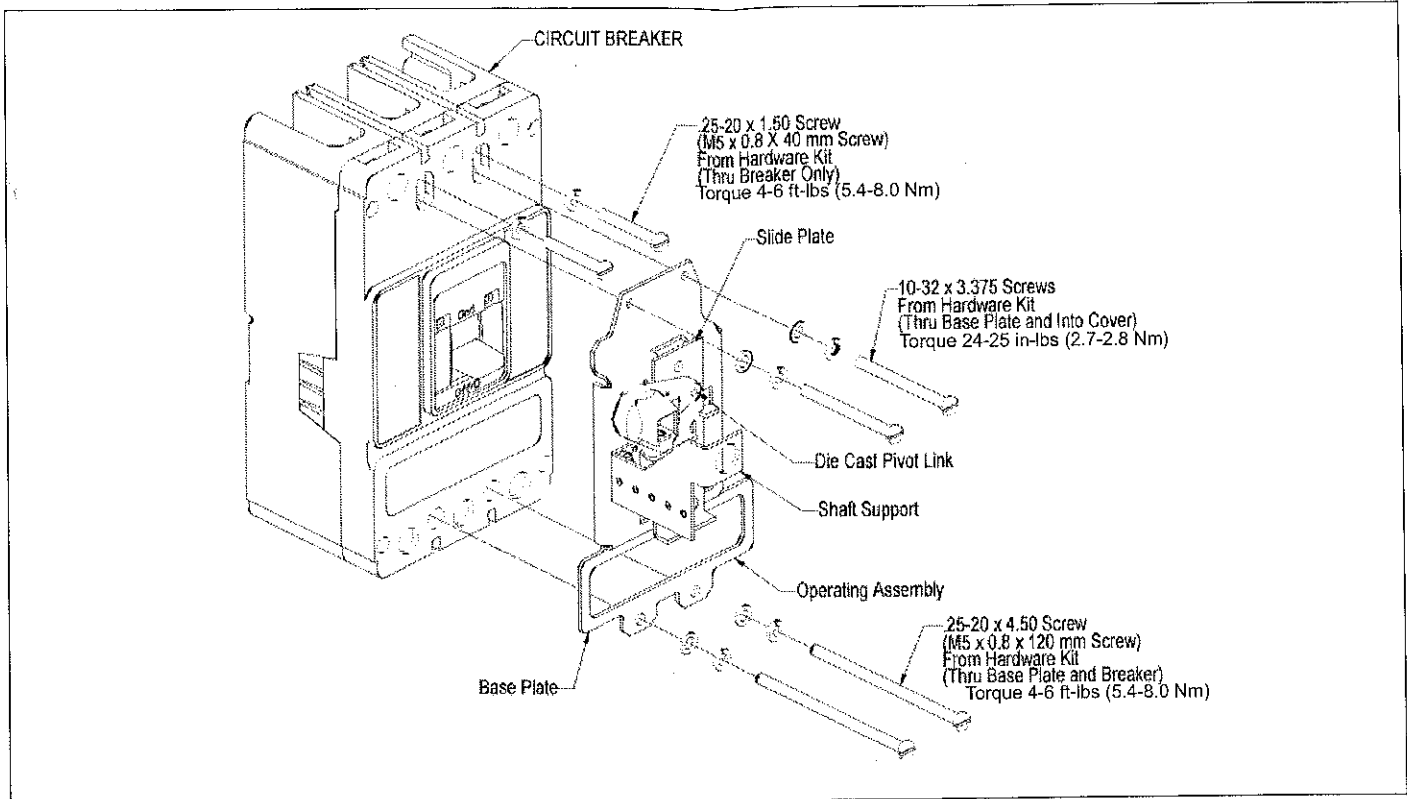

Fig. 2-2 K-Frame Breaker/Mechanism Assembly
2. Mount circuit breaker to enclosure using the two shorter screws in the hardware kit. Insert screws and lockwashers into the two line end circuit breaker mounting holes and tighten securely into tapped holes from step 1. (Fig. 2-2)
5. Mount mechanism onto circuit breaker, ensuring slide plate is engaged with the circuit breaker handle. Insert the new cover screws along with washers and lockwashers from the hardware kit, through the line end mounting holes of the mechanism, and into the empty cover screw holes of the circuit breaker. Insert the remaining screws, washers, and lockwashers from the hardware kit, through the slots in the mechanism base plate, and into the remaining circuit breaker mounting holes. (Fig 2-2)